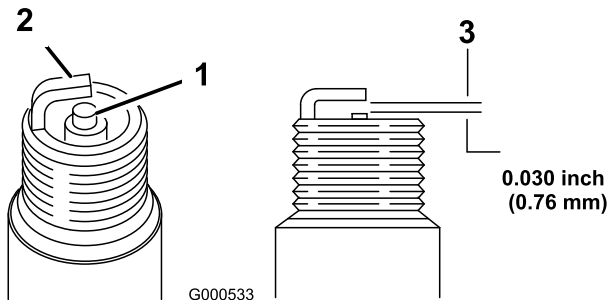

Figure 33
11. Set the gap on the plug to 0.76 mm (0.030 inch) (Figure 33).